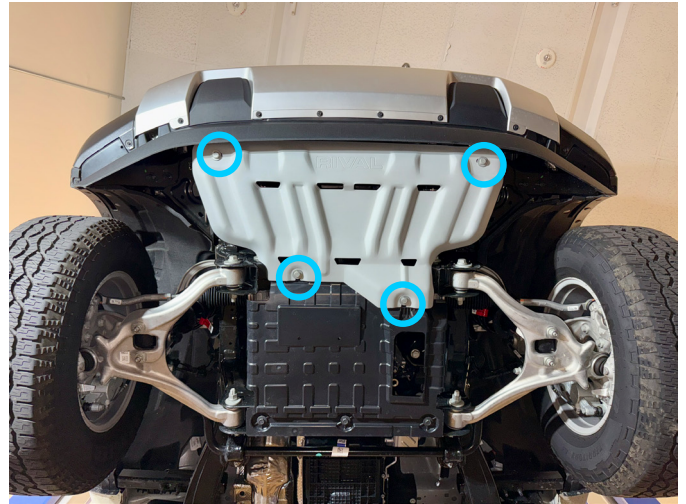

Fig. 2
****If the vehicle has the RIVAL radiator skid plate, loosen the front and rear bolts of the radiator skid plate shown in fig.2 (2111.1884.1.3 / 2333.1884.1 / 2333.1884.1.6)**